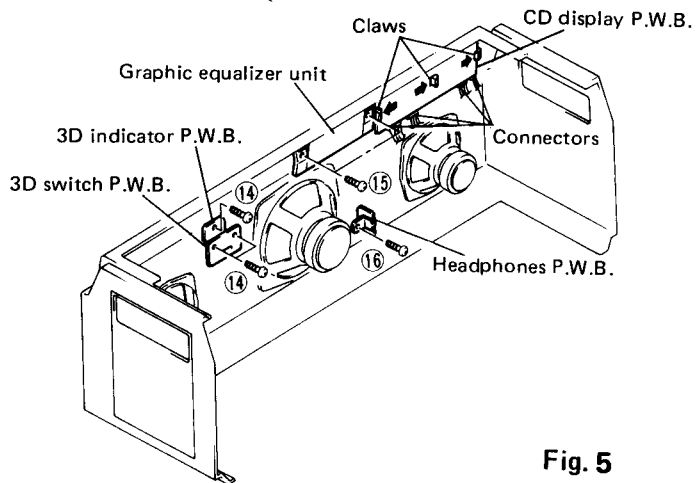

Fig. 5
- (3) **CD display P.W.B. (Fig. 5)**
(6) 3D indicator P.W.B. and 3D switch P.W.B. (Fig. 5)
(7) Graphic equalizer unit (Fig. 5)
(8) Headphones P.W.B. (Fig. 5)